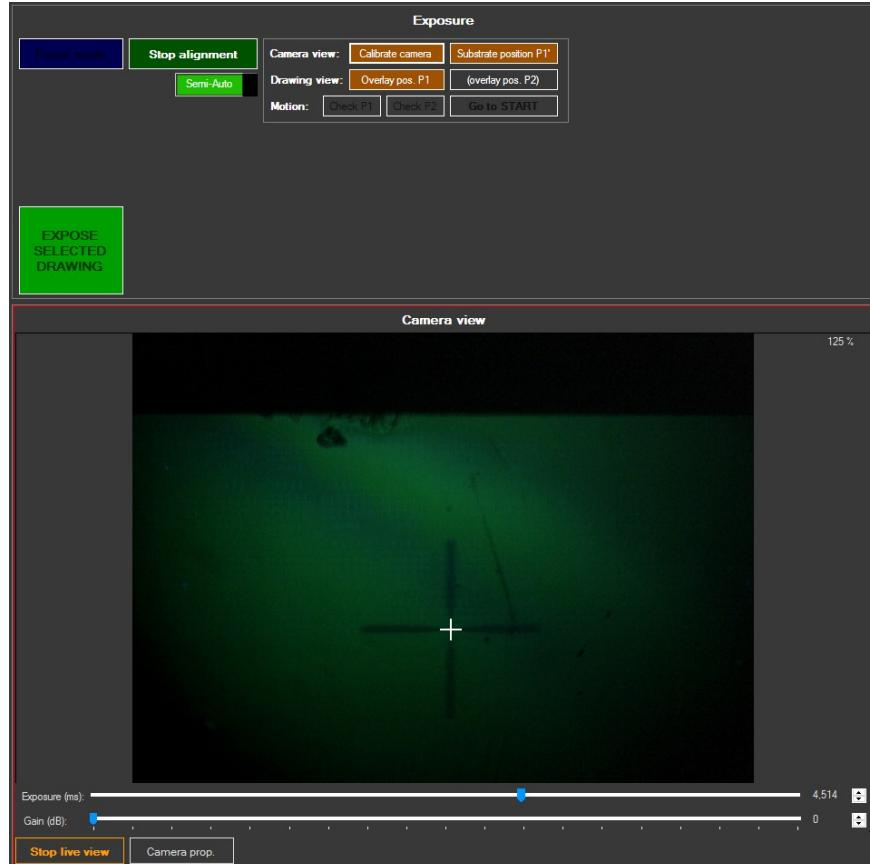

Figure 49 - Semi-auto alignment: camera calibration
- Camera calibration (Figure 48a): click on **Calibrate camera**. The camera live view may start and the mouse cursor shape may change. In the camera view, click on the central part of the displayed cross (Calibration point) as shown in Figure 49.